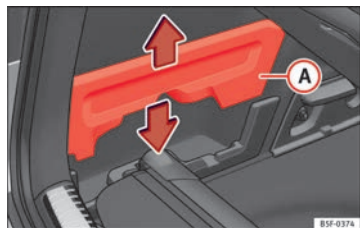

Fig. 98 In the luggage compartment: housing for storing the rear shelf.
- Remove covers ⇒ Fig. 98 (A) left and right.